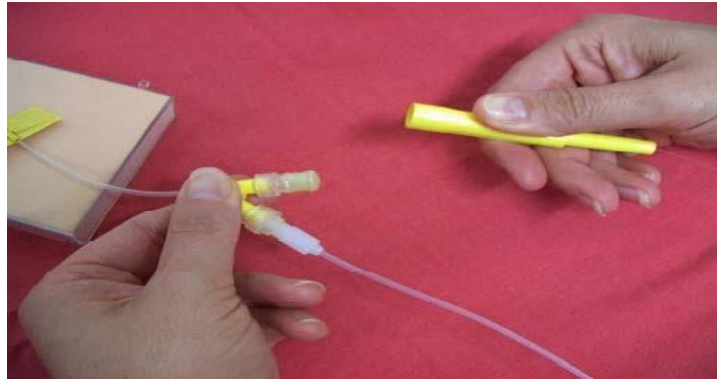

Fig 12.
9. With gentle pulling action, pull the needle encasement away from the “Y” connection. (fig 12.)